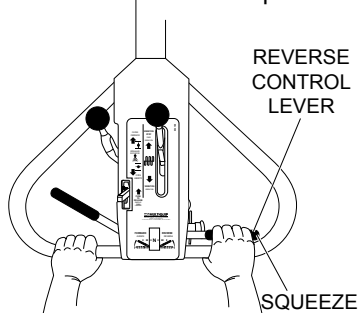

Figure 27. Reverse Travel Lever
3. Squeeze the **right** travel lever (Figure 27) to move the roller in a **reverse direction**. Use a smooth squeezing action on the drive control lever to prevent abrupt takeoffs.